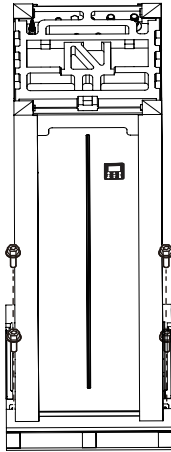

Fig.2-3
- Remove the 4 screws of the wooden base (Refer to Fig. 2-3).